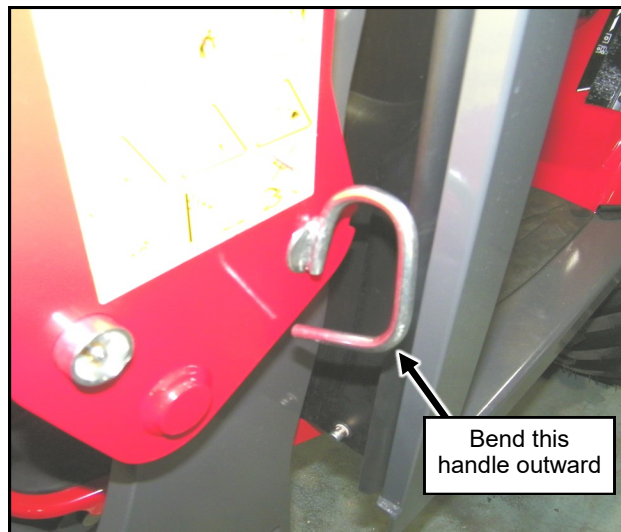

Fig. 1.8 (Loader Clevis Pin Handle)
- 1.8** (FL1805 Loader Only) Bend the handles on the Clevis pins for the loader outward as shown, to allow the pins to rotate out from behind the side frames. See Fig. 1.8.